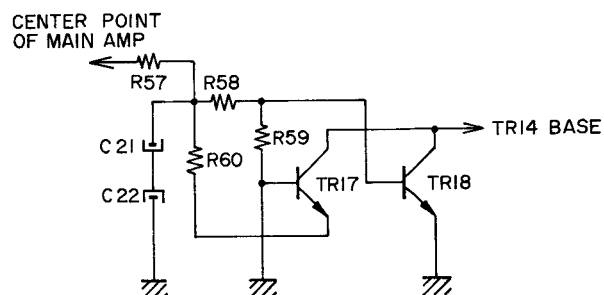

Fig. 10 Center Point DC Voltage Detection Circuit
5. Center-Point Voltage Detection Circuit (Refer to Fig. 10)
This is prevented by the circuit in Fig. 10.